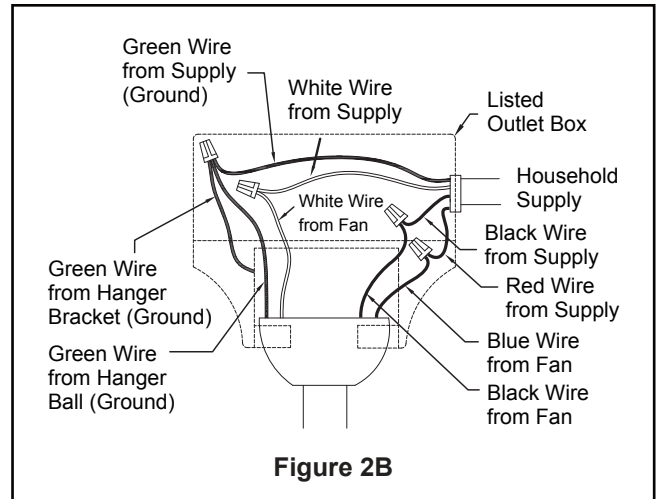

**Figure 3A**
2. After connections have been made, taking care not to pinch the wires and put the white and green leads to one side and the black leads towards the other side, the connection should be turned upward and carefully push leads into the outlet box. The wires should be spread apart with the grounded conductor and the equipment-grounding conductor on one side of the outlet box and the ungrounded conductor on the other side. (Figure 3A)